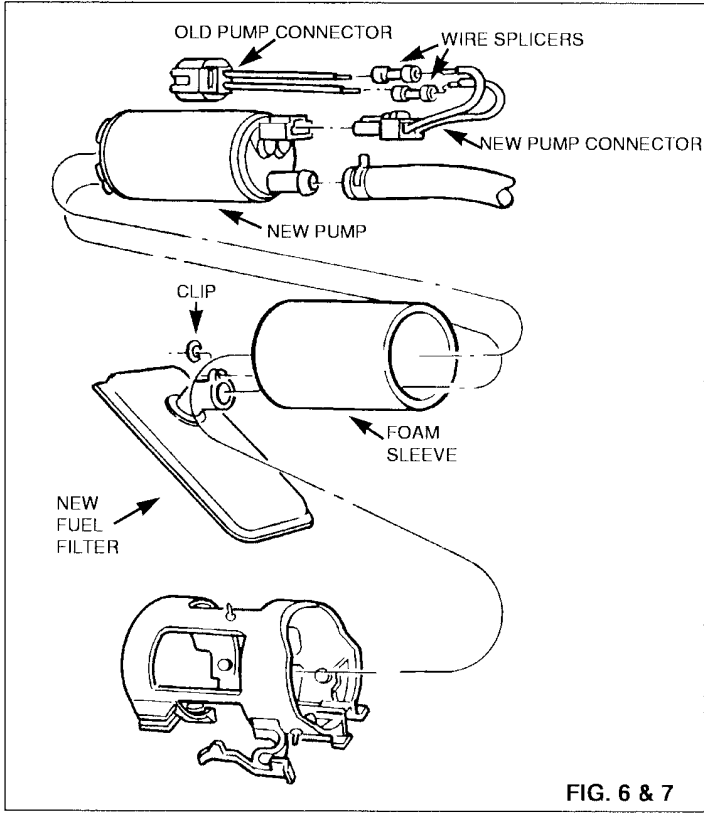

FIG. 6 & 7
A) Place foam sleeve supplied in the new kit on the new pump so that the sleeve is even with the metal shell of the pump at the filter end (See Fig. 6).